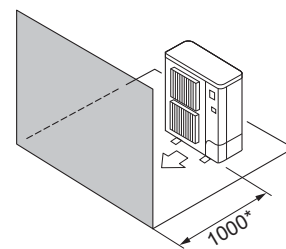

Fig. 2-6
- ④ Solo ostacoli anteriori (Fig. 2-6)